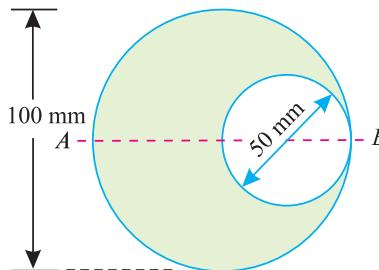

Fig. 6.31.
1. A circular hole of 50 mm diameter is cut out from a circular disc of 100 mm diameter as shown in Fig. 6.31. Find the centre of gravity of the section from A.    [Ans. 41.7 mm]